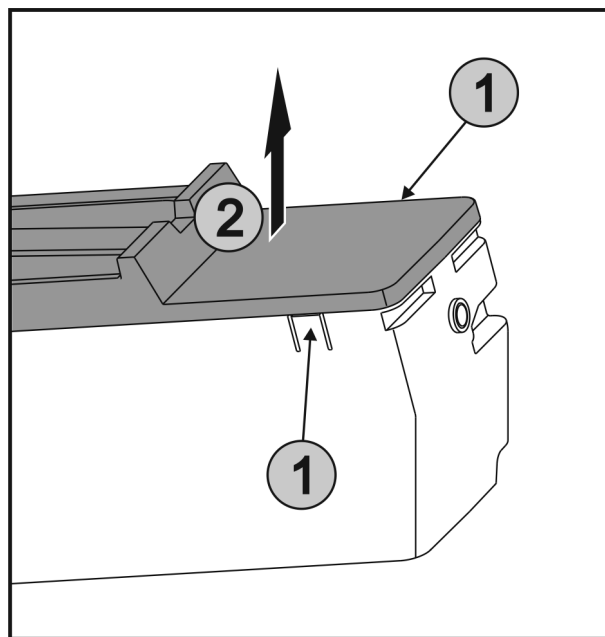

Fig. 48
- ▶ Press the lugs Fig. 48 (1) on both sides of the EasyTwist-Ice simultaneously and take off the lid Fig. 48 (2) to the top.